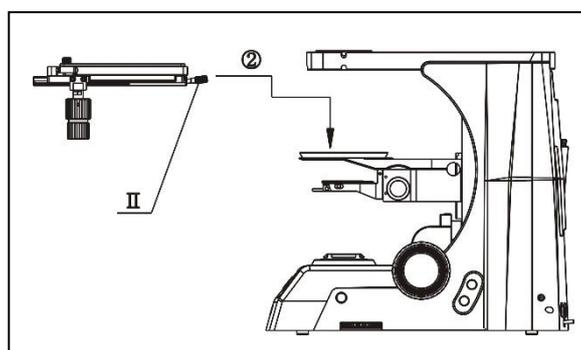

Fig.3
4-2-2 Mechanical carrier stage equipment installation (Fig.3)
- ★ The mechanical carrier stage is installed along the path of ramp in Fig.3. Firstly, the hole center of the stage is roughly aligned with the center of the support circle, and then the stage is placed on the positioning ring of the support.
- ◇ After the stage is placed stable, tighten the screw of II with universal wrench in Fig.3, so that the stage can't rotate and shake.